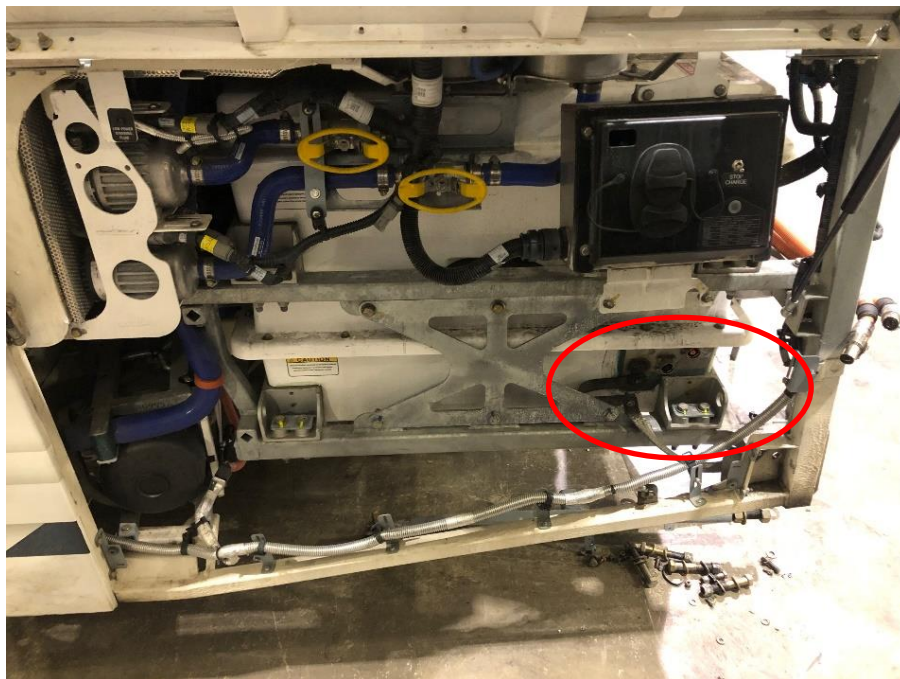

Figure 5: HV Connections and Ground Strap at Rear Street Side
10. Disconnect and secure the high voltage cables, clamps, and grounding strap from both enclosures. Reference Figure 5.